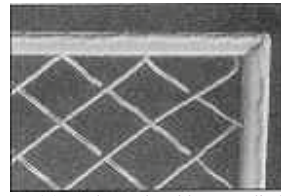

Figure 15: Undressed welds as applied (no cleanup.)
- Undressed welds as applied (no cleanup) (Fig. 15).